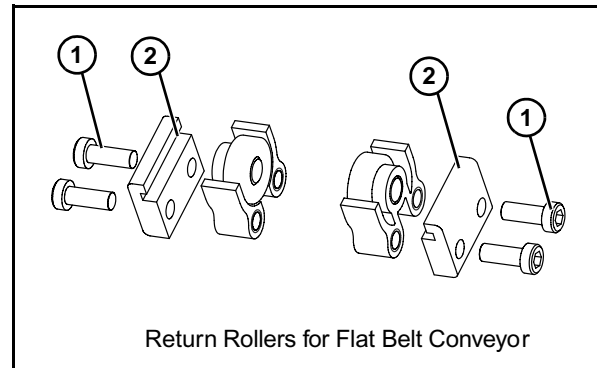
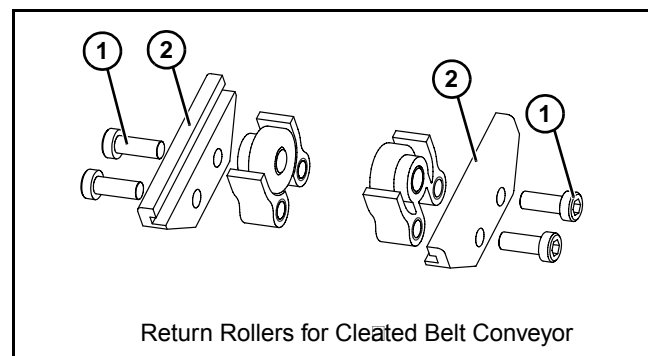

Figure 17
Figure 18
1. Locate return rollers. Exploded views shown in **Figure 17** & **Figure 18**.
2. Remove screws (**Figure 17, item 1**) & (**Figure 18, item 1**) and clips (**Figure 17, item 2**) & (**Figure 18, item 2**) from roller assembly.